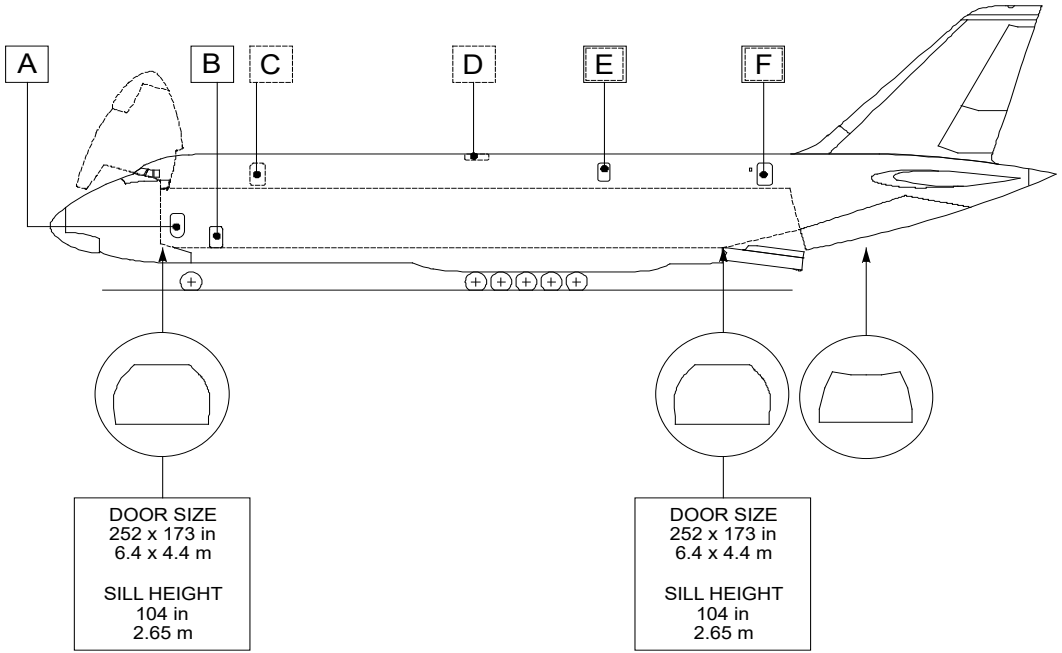

Figure 8. Sills height and dimensions for AN-124-100(150)
- Table 4. Doors, sills height and dimensions for AN-124-100 (150) aircraft;
- Figure 8. Sills height and dimensions for AN-124-100(150);